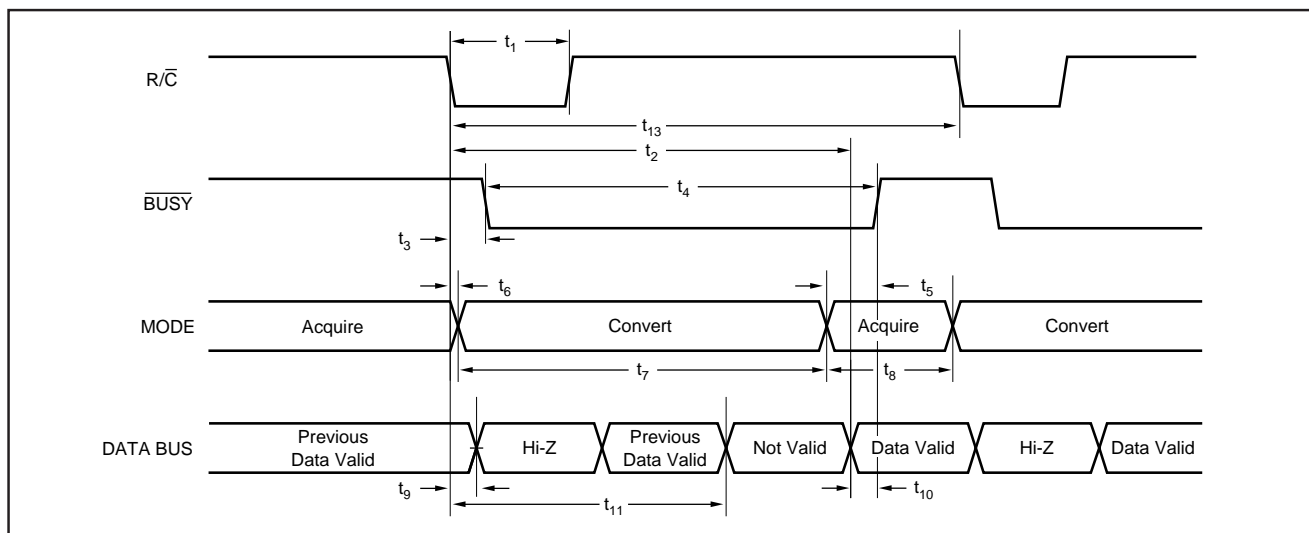

FIGURE 3. Conversion Timing with Outputs Enabled after Conversion (\overline{CS} Tied LOW).
Table II for a summary of \overline{CS} , $\overline{R/\overline{C}}$, and \overline{BUSY} states and Figures 3 through 5 for timing diagrams.
NOTE: (1) See Figures 3 and 4 for constraints on data valid from conversion "n-1".
After conversion 'n' is completed and the output registers have been updated, \overline{BUSY} (pin 26) will go HIGH. Valid data from conversion 'n' will be available on D15-D0 (pins 6-13 and 15-22). \overline{BUSY} going HIGH can be used to latch the data. Refer to Table IV and Figures 3 to 5 for timing specifications.
After conversion 'n' has been initiated, valid data from conversion 'n – 1' can be read and will be valid up to $7\mu s$ after the start of conversion 'n'. Do not attempt to read data from $7\mu s$ after the start of conversion 'n' until \overline{BUSY} (pin 26) goes HIGH; this may result in reading invalid data. Refer to Table IV and Figures 3 to 5 for timing specifications.
The number of control lines can be reduced by tying \overline{CS} LOW while using R/\overline{C} to initiate conversions and activate the output mode of the converter (see Figure 3).